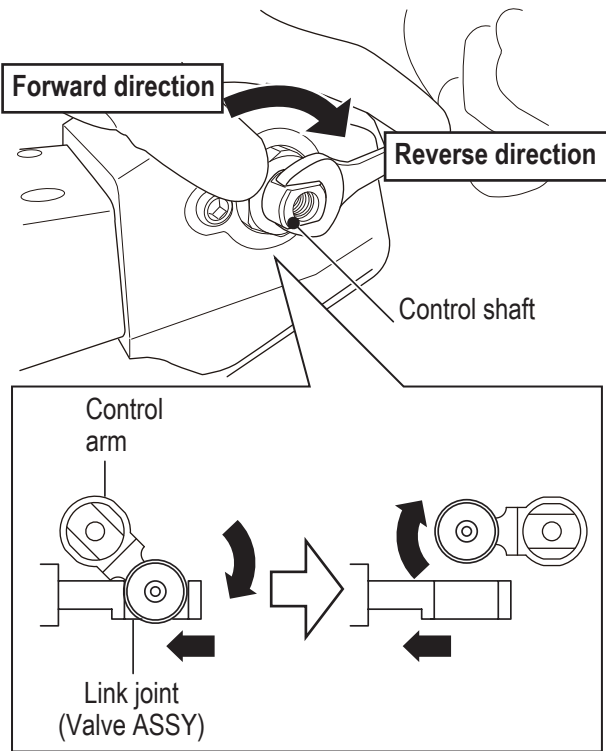

Fig. 7
- h. While removing the valve assembly, turn the control shaft in the reverse direction, then remove the link joint of the valve assembly from the control arm.(Fig.7)